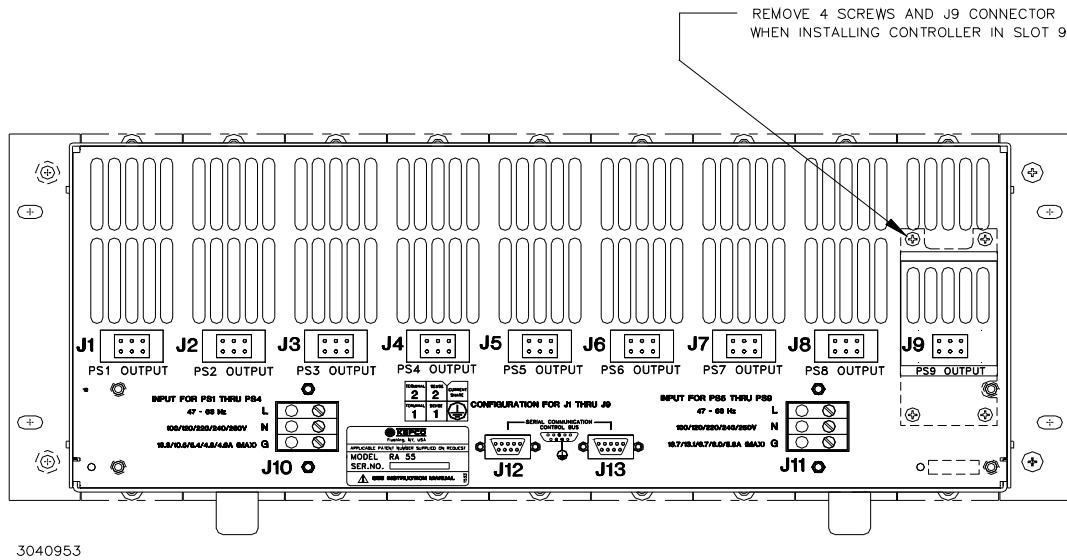
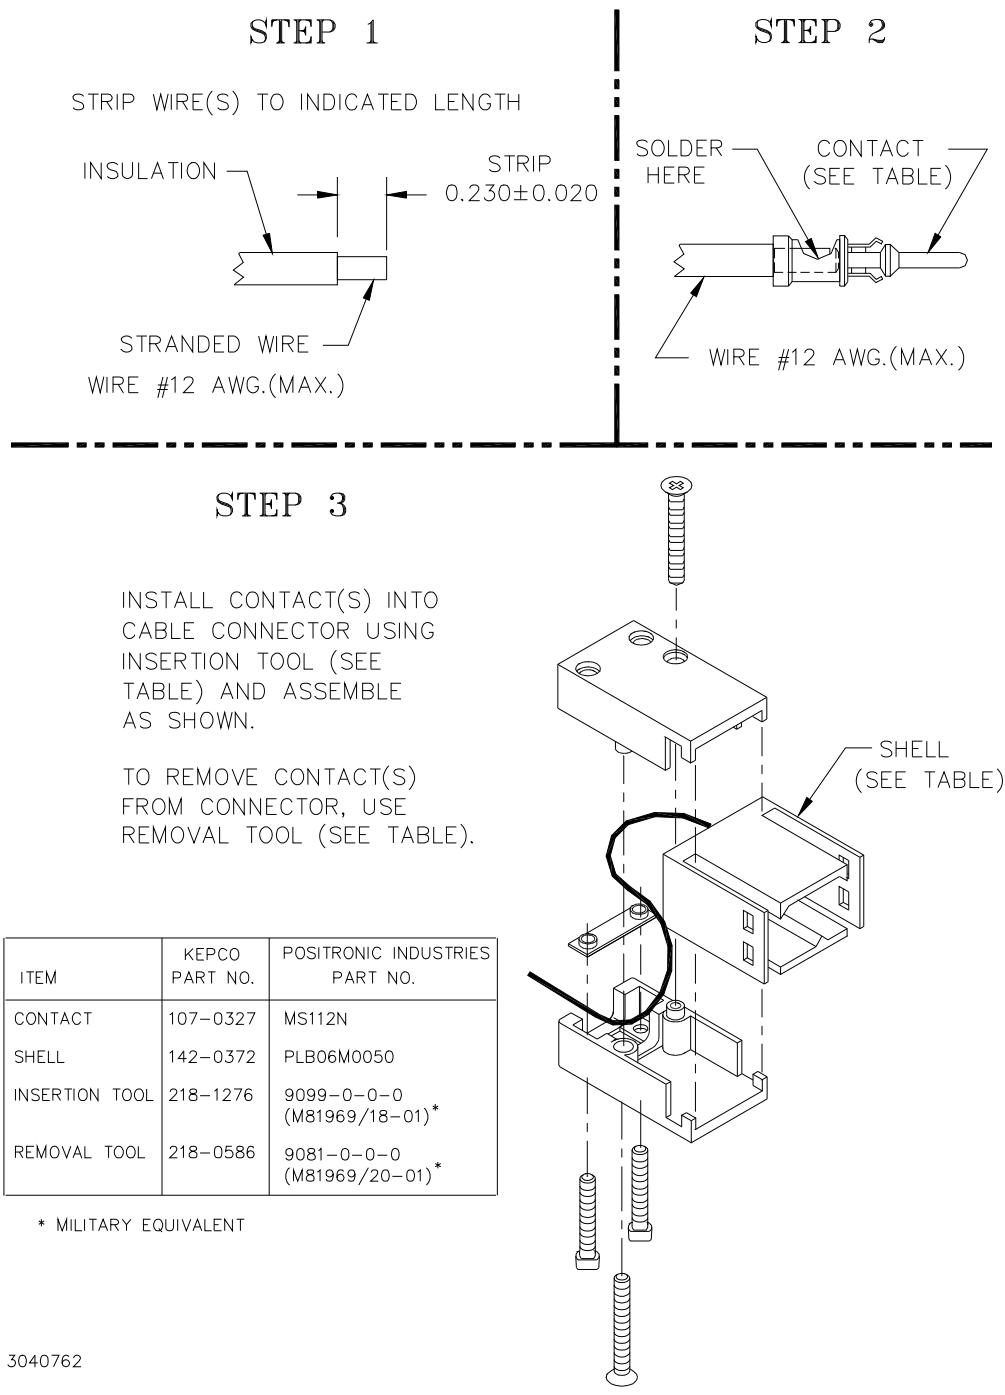

FIGURE 2. RA 55 BACKPLATE ASSEMBLY
FIGURE 6. LOAD CONNECTOR ASSEMBLY PROCEDURE
The rack adapter contains a PCB backplane whose connectors facilitate hot-swapability. Dual a-c input terminal blocks (J10 and J11) on the backplate assembly (Figure 2) distribute input power to nine PCB-mounted a-c input/control bus power connectors (P1 - P9) as shown in Figure 4. Terminal block J10 provides input power slots 1 through 4; terminal block J11 provides input power to slots 5 through 9. Two-wire IEEE 118 control bus data is supplied to the nine a-c input/control bus power supply connectors via two 9-pin (six pins are not used) connectors, J12 and J13 on the backplate assembly. The utilized pins of the two IEEE 118 control bus connectors are paralleled, facilitating “daisy chain” control bus configurations. A shield connection is routed to connector P9 for grounding within the controller when a controller is installed; otherwise this connection is not used.
** Contacts to be assembled into connector shell per Figure 6; six extra contacts are provided.
Interconnections between an a-c power source and a stabilized power supply, and between the power supply and its load, are as critical as the interface between other types of electronic equipment. If optimum performance is expected, certain rules for the interconnection of input power source, power supply and load must be observed by the user. These rules are described in detail in the following paragraphs. All interconnections are accomplished at the backplate assembly (Figure 2). Refer to Figure 3 for RA 55 interconnections and input/output connector pin assignments.
Load connections to the RA 55 are achieved via the nine individual connectors (J1 - J9) located on the backplate assembly directly behind each mounting position (see Figures 2 and 4). Mating connectors (assembly required) are supplied (see Figure 6).
Access to the IEEE 1118 communication control bus for each power supply is provided via two 9-pin D-subminiature type connectors (J12 and J13) on the backplate assembly (see Figures 2 and 4). Two pins of each connector are used for the 2-wire control bus; the third pin is utilized when a controller is installed in slot 9, allowing the shield to be grounded within the controller.
The unit is shipped with slot 9 configured to accept an MST power supply. To install a controller in slot 9, remove J9 connector plate by removing four screws at the backplate assembly (see Figure 2).